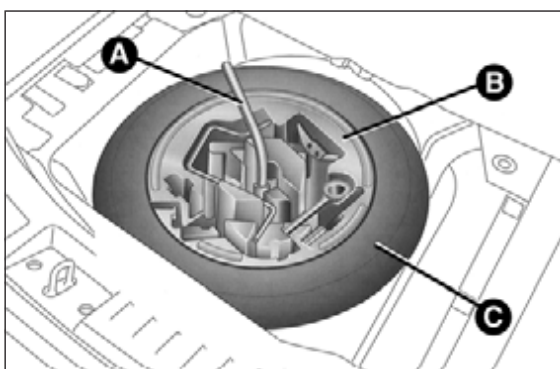

fig. 102
- ☐ using the wrench A fig. 102 located in the tool box, loosen the locking device, take the tool box B and place it close to the wheel to be replaced. Then take the space-saver wheel C;